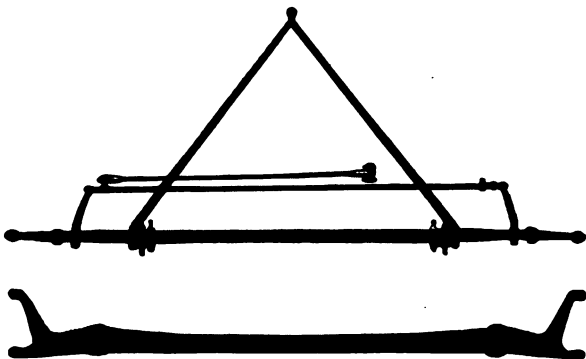

Figure 29.—The Front Axle and Radius Rods.
*Front Axle.*—The appearance of the front and of the top of the Ford front axle is shown in Figure 29. The center section is a steel forging of I-beam section, this shape providing great strength with light weight. The front axle of the automobile, unlike that